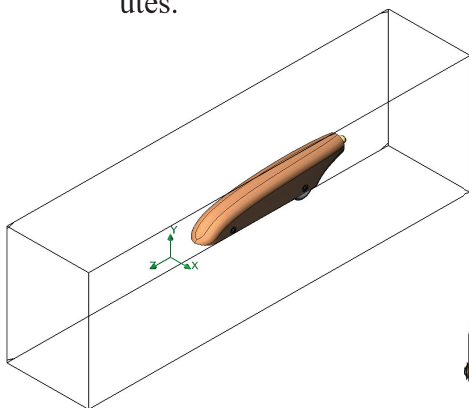

Fig. 12
Step 4. Set At X min to Symmetry, Fig. 12.